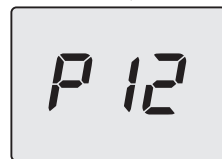

Figure 5.46
- Scroll through the various parameters by pressing the keys 13 (back) or 15 (forward), until **P12**, which alternates with the parameter value, appears on the LCD display (Figure 5.46).